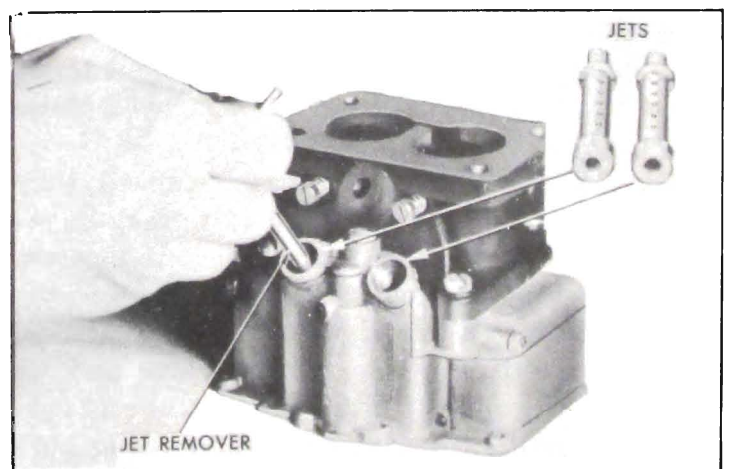

Figure 3-83—Removing Main Discharge Jets
14. Remove main discharge jets by screwing Jet Remover T-24967 (R.H. thread) into base of jet, then pulling jets from main body. See figure 3-83. The threads formed in the main discharge jet by the tool will not affect the metering characteristics of the jet. *NOTE: Make sure that main discharge jet lead gaskets are removed from main body.*